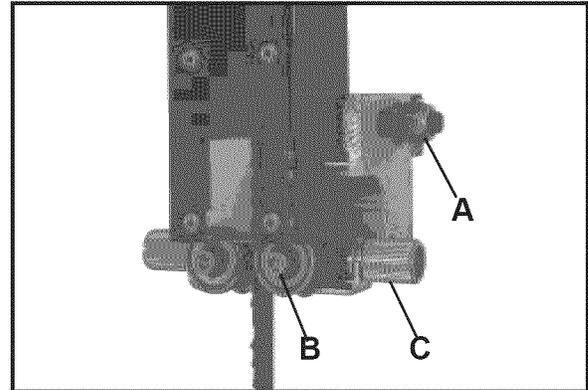

Figure 12
a. To adjust the upper blade guides, first position the right and left roller guides relatively close to the blade by loosening the lock nut (A-Fig.12) and moving the guide carrier until both bearing guides are approximately 1/16" behind the gullets of the saw blade.
b. Set both bearing guides to within $1/32$ " of the saw blade by releasing the guide adjusting screws (B-Fig.12) on each side of the saw blade, then by turning the micro-adjusting knobs(C-Fig.12). Do not set the bearing guides too close as this will adversely affect the life of the saw blade.